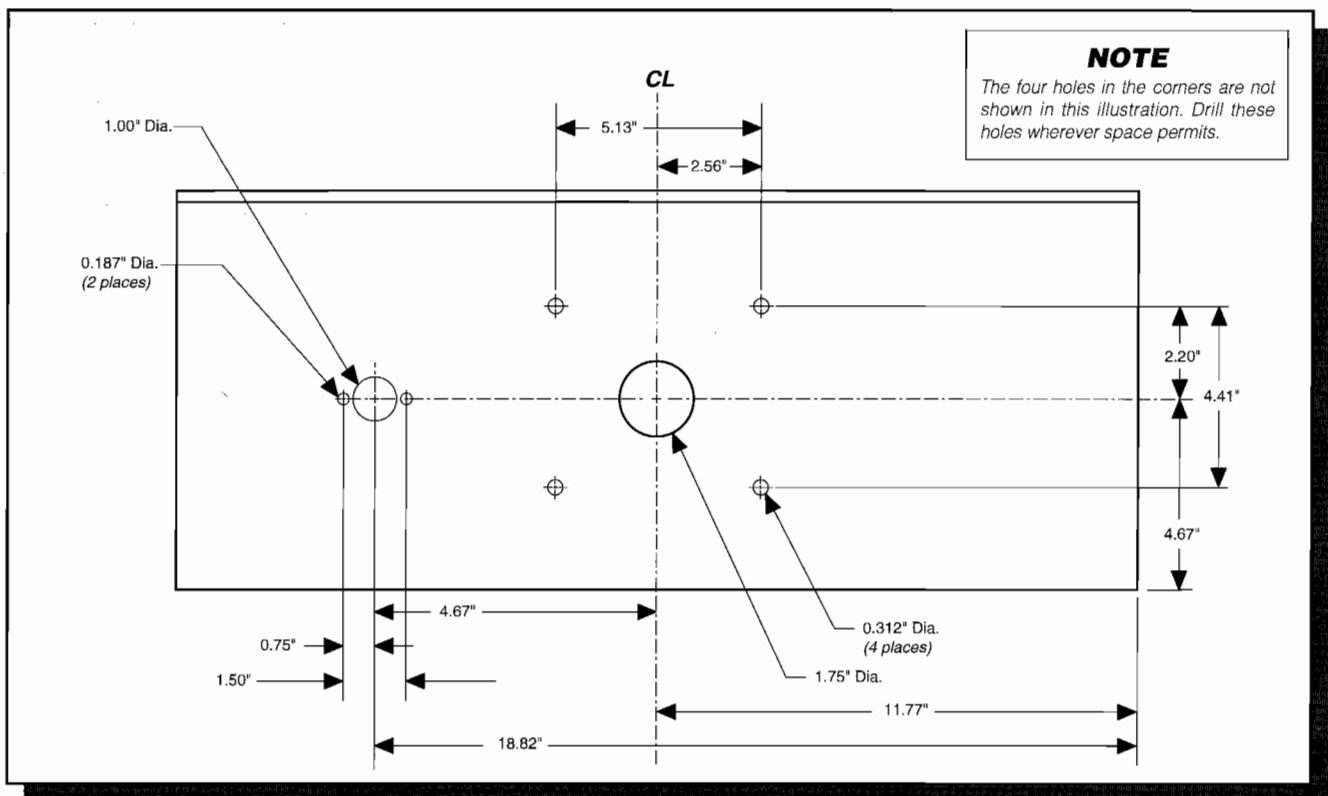

Figure 1-2 Locations of Control Panel Holes to be Drilled
1. Using carbon paper, transfer the steering control mounting pattern from the template to the control panel. Save the template. Also refer to Figure 1-2 or 1-3 for the exact locations of all control-panel holes.